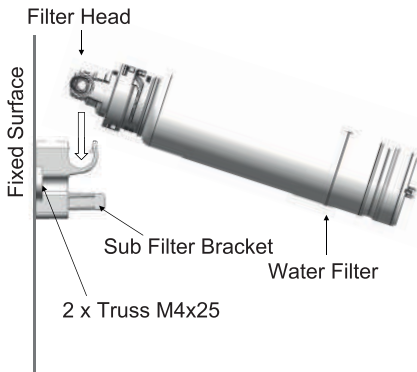
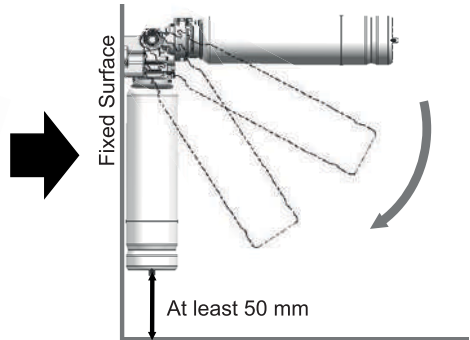

Figure 5: Sub Filter Bracket and Water Filter fixing direction.
Figure 6: Water Filter usage setting.
Step 9: Determine the mounting position for the Water Filter and fix the Sub Filter Bracket ⑥ with 2 pcs of Truss M4x25 ⑦ to a fixed surface. The direction to fix Sub Filter Bracket is referred to in Figure 5. Ensure the Water Filter is in a convenient location to access easily every 6 months for replacement. Ensure the clearance from the bottom of Water Filter is at least 50 mm to perform filter removal (Figure 6).
We recommend fitting the Water Filter in a vertical orientation with the Filter Head at the top as in Figure 6.